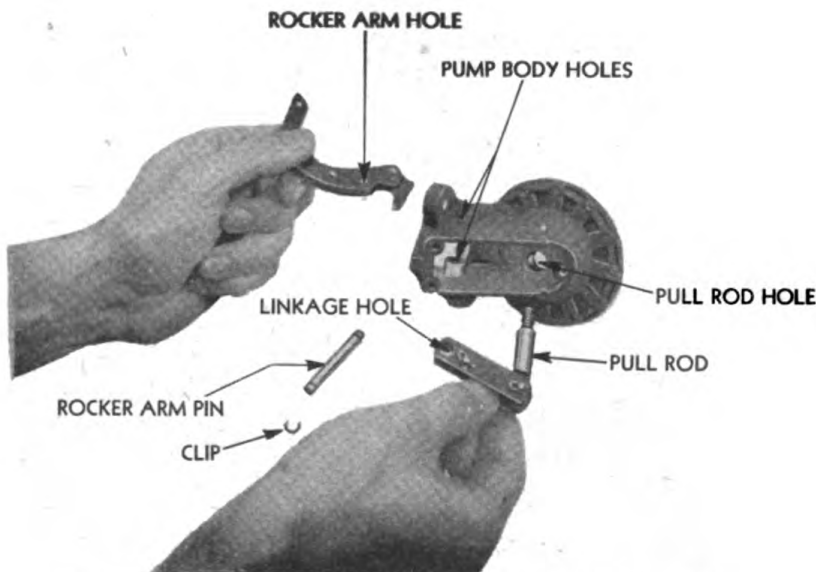

Figure 272. Diaphragm Assembly (a).
3. Insert the rocker arm pin through the holes of the pump body, linkage and rocker arm. See Figure 272. Install lock ring; seat it properly in the groove.